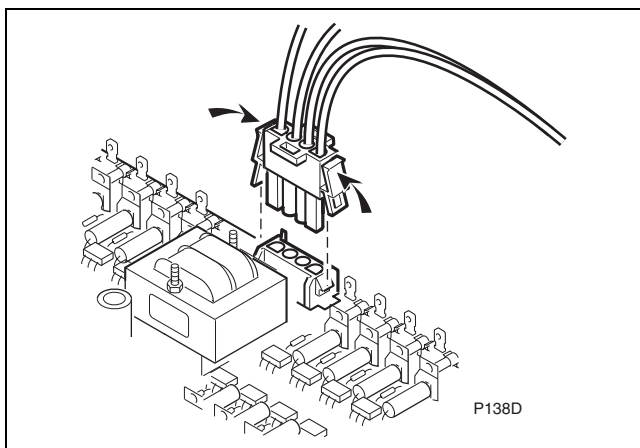

Figure 9
f. Unplug the four-pin connector by grasping and squeezing the sides. Refer to *Figure 9*.
- g. Remove the AC drive board from the nylon standoffs that fasten the board to the module. Refer to *Figure 9*, and remove the board.